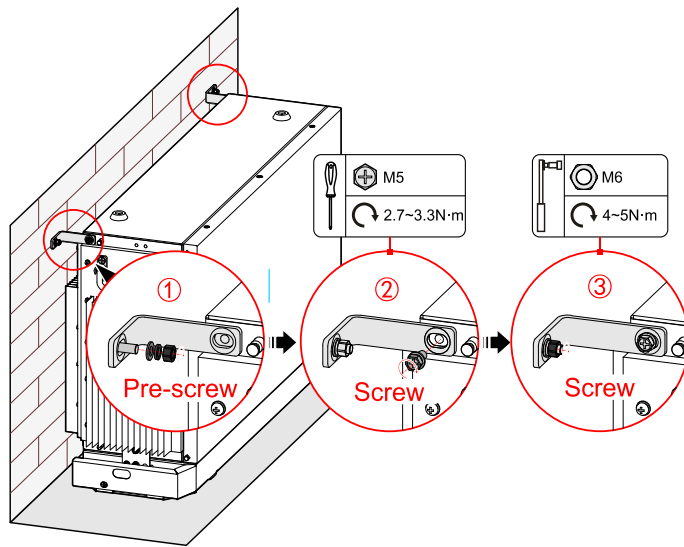

Figure 3-19 Fix the wall bracket a
2. Fix the wall bracket a of bottom battery pack1, as shown in Figure 3-19.